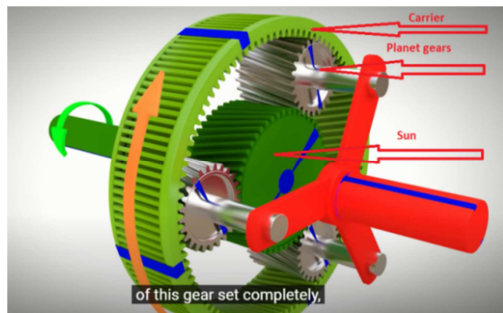
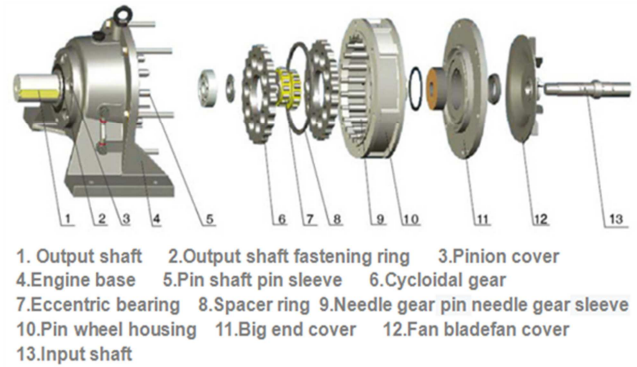

Figure 13. Planetary transmissions [14].
Figure 14. Cycloidal transmissions [15].
7. Screw rotating at higher speed than bowl & second the screw rotating at lower speed than bowl. These two situations are obtained either by deploying Planetary [Figure 13] or by Cycloidal [Figure 14] differential gear transmissions.